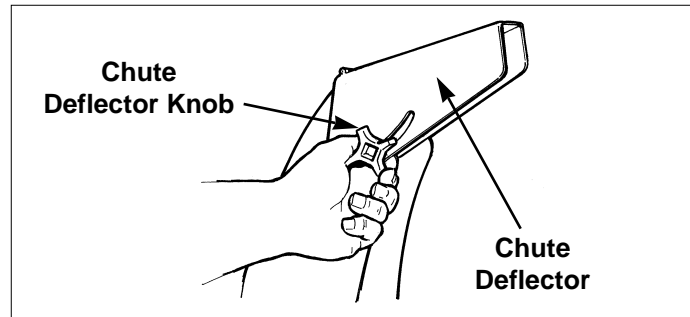

Figure 8. Chute Deflector Adjustment (Some Models)
2. To DISENGAGE the traction drive lock, insert the Traction Lock Pin through the outer hole in the axle. (See Figure 8).
2. Stop the engine by moving the Throttle Lever (See Figure 8) down, or by pulling out the Engine Key.